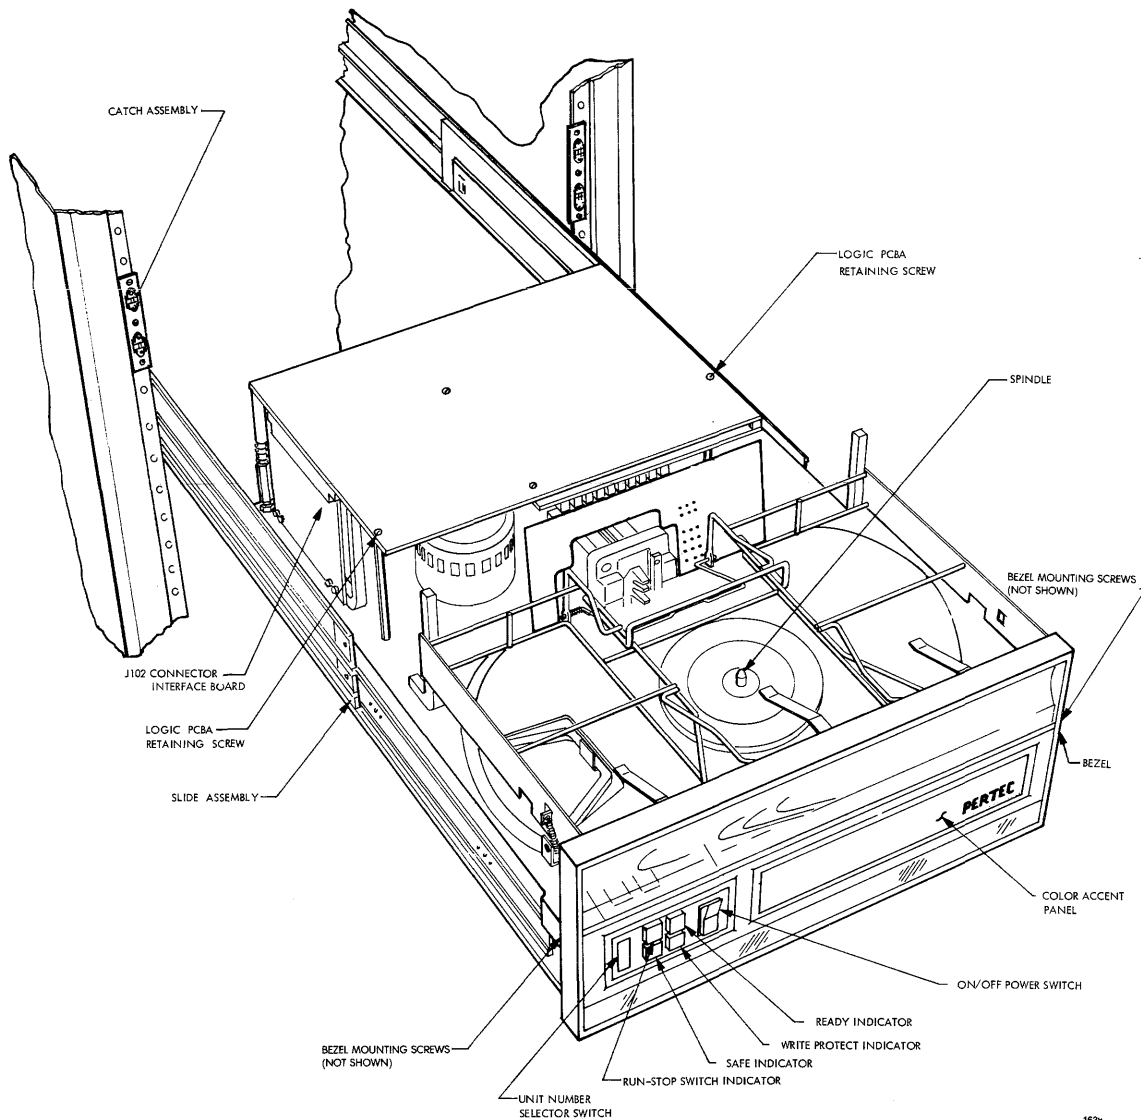
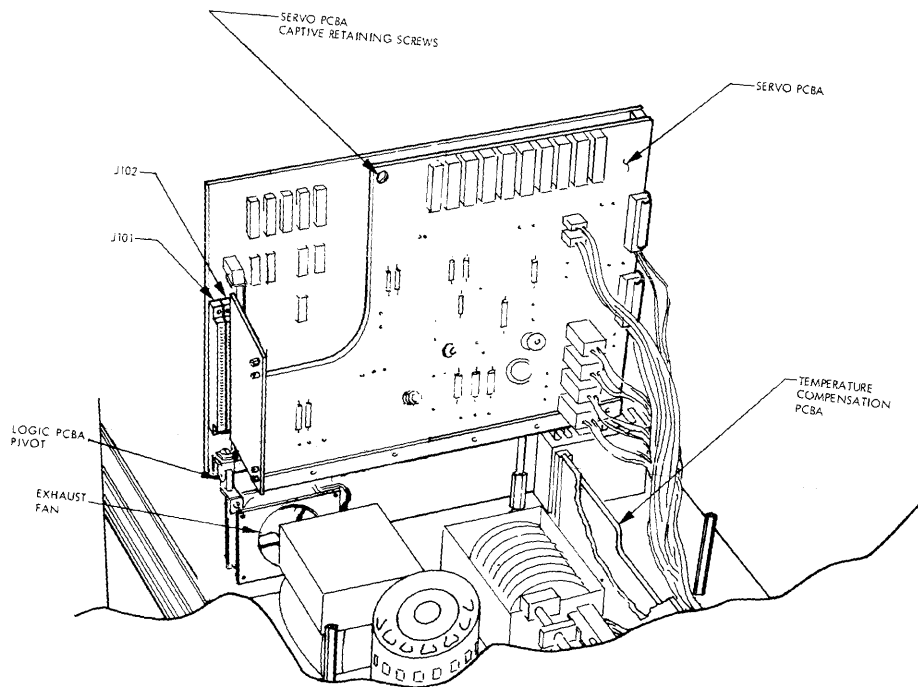

Figure 2-2. Rack Mounting the D3000 Disk Drive
Figure 2-3. Component Identification, Logic and Servo PCBA Extended
- (7) Locate and loosen the two retaining screws (shown in Figure 2-2) on top of the Logic PCBA; rotate the hinged card structure up and to the rear. The spring-loaded PCBA pivot-lock will automatically lock the Logic PCBA into the vertical position as shown in Figure 2-3.
- (8) Loosen the two retaining screws which secure the Servo PCBA to the Logic PCBA (see Figure 2-3).
- (10) Repeat Step (8) to return the disk drive to the Ready condition.
- (11) Place the power ON/OFF switch to the OFF position; verify that:
- (12) Before the disk has the opportunity to coast to a stop, place the power ON/OFF switch to the ON position; verify that the SAFE indicator does not become illuminated until after the disk(s) has coasted to a stop.
- (13) Remove the cartridge as described in Paragraph 3.4.2 or 3.4.4.
- (14) Place the power ON/OFF switch to the OFF position.
- (15) Position the Servo PCBA in the closed position and secure it to the Logic PCBA with the two captive retaining screws (shown in Figure 2-3).
- (16) Slide the spring-loaded sleeve of the Logic PCBA pivot lock downward to release the pivot lock (see Figure 2-3).
- (17) Lower the Logic PCBA and secure it to the PCBA support brackets using the two retaining screws (shown in Figure 2-2).